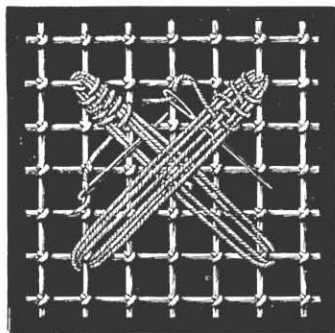
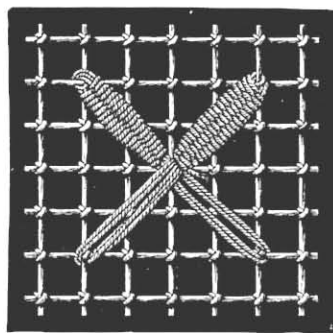

Fig. 25. Leaves in darning stitch.
Fig. 26. Leaves in darning stitch.
**Leaves in darning stitch** (figs. 25 and 26). — This is a stitch mostly used in making the fine delicate leaves that often adorn embroidered net. The needle, starting from the middle, is carried alternately to the right and left under the threads of the foundation, and you push the stitches, as you make them, close together with the point of your needle. To make these stitches to perfection you must not forget to turn the work so as to have the finished stitches directed towards you. First you stretch the threads, as the engraving shews, to the number of two or three, and then make the leaf with one, often even with several veins. When the leaf has only one vein, as shewn in the left part of figure 26, the needle divides the prepared threads equally into two, where, as in the case of wider leaves which would be improved by having two or more veins, you divide the threads accordingly into three or four clusters.
In embroidering leaves in darning stitch you should also be careful to push the stitches more closely together at the two ends, and leave them rather more play in the middle. Figure 26 shews two leaves completed ; one with one vein, the other with two.